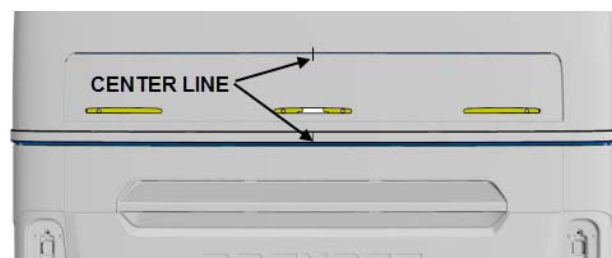

FIGURE 41
3. To ease installation of the drip edges, draw a reference lines on the vehicle body indicating the center of the rear end so that the drip edges will be installed perfectly centered (FIGURE 41). You may use the center high mounted stop light and the SS molding as reference to find the center of the rear end.